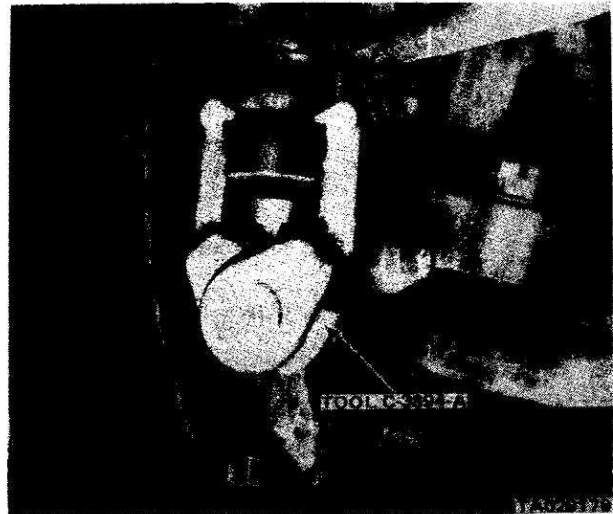

Figure 2-89. Tie Rod and Puller Installed.
- (1) Place the truck on jack stands.
- (2) Remove the cotter key and nut from the tie rod end.
- (3) Install a tie rod end puller, tool C-3894-A (figure 2-89). Apply enough pressure to free the tie rod end from the knuckle arm or center link.